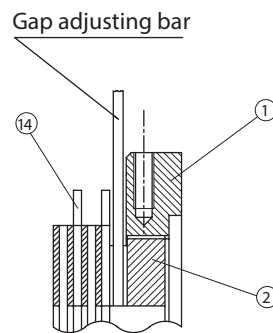

Figure 8-20
- (3) Insert the gap adjusting bar (customer to prepare an angle plate. See Figure 8-21) from between the outer disc [14] and the center ring [1] into a hole for a gap adjusting screw [2]. Rotating to the left as seen from the field [4] side, will narrow the gap. (See Figure 8-20)
- (4) Six attachment bolts [3] and lock bolts [11] alternately pass through the space between the outer disc [14] and the center ring [1]. Rotating the gap adjusting bar will contact these bolts. There are 8 equally distributed holes for gap adjusting screws [2]. Adjust the gap G to the required value by repeating (3) each time the gap adjusting bar contacts a bolt.
- (5) Select the point where hole and screw hole are closest to the required gap and attach the stopper [16] there.
- (6) After returning the manual brake release to its original state, turn power on and off to check brake action.
- (7) Attach the fan [7] and cover [8]. At this time coat the fan set screw [10] with Three Bond TB2365.